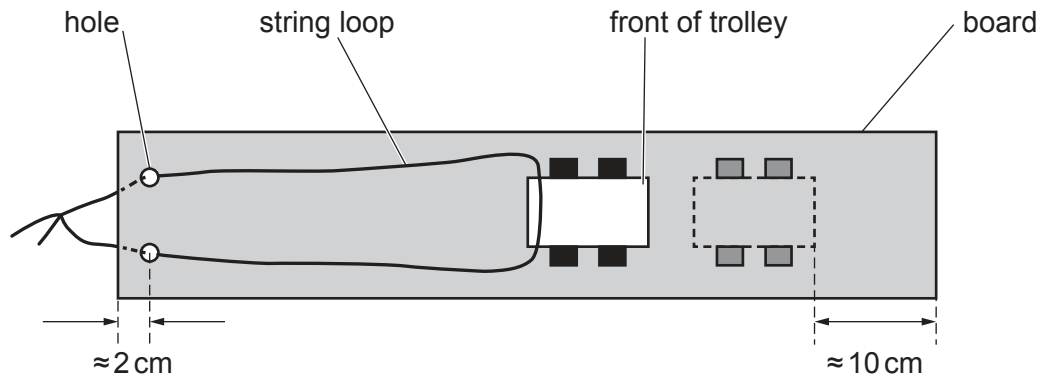

Fig. 2.1 (not to scale)
- 1 Drill two holes approximately 2 cm from one end of the board, as shown in Fig. 2.1. Use a string loop to attach the back of the trolley to the board. Ensure that the trolley stops approximately 10 cm from the end of the board when the string loop is gently stretched.